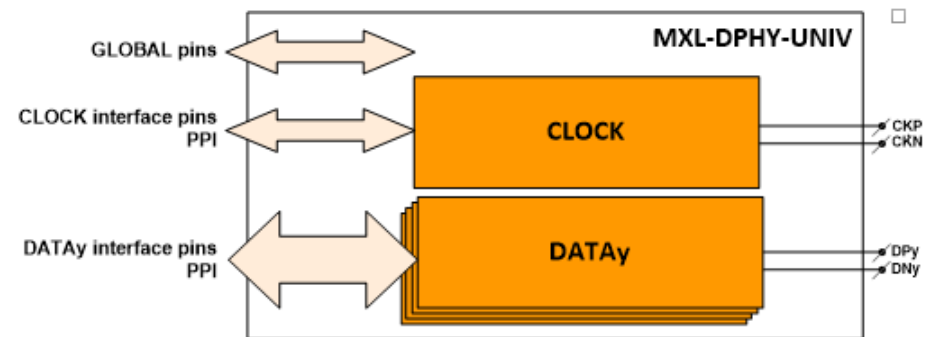
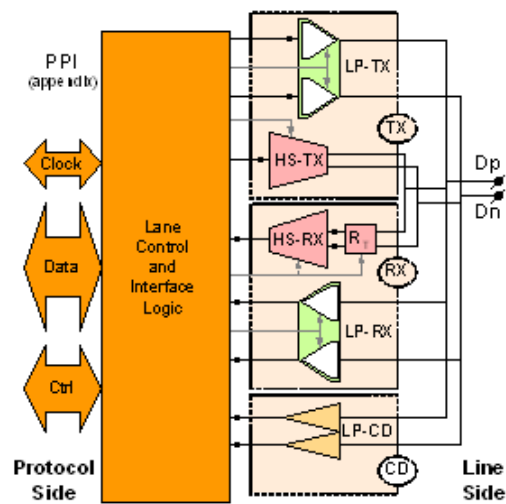

Figure 1: Four data lane D-PHY block diagram
Figure 2: Block Diagram of a D-PHY data lane
Let's begin by taking a closer look at the D-PHY, which has been around since 2009, and thus better understood, and widely deployed. The D-PHY is a simple source synchronous PHY that uses one clock lane and a varying number of data lanes. The block diagram of the four-data lane D-PHY is shown in Figure 1 and the details of each lane are presented in Figure 2. Since the D-PHY has been in the market for almost a decade, there is an abundance of literature available covering its unique features and use-cases (1).